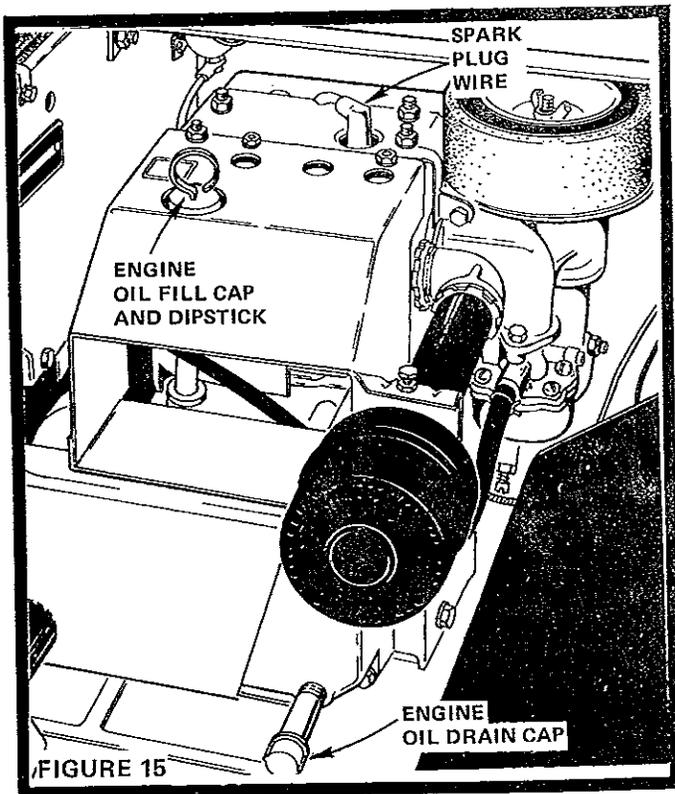

FIGURE 15
DISCONNECT SPARK PLUG WIRE (FIG. 15) TO PREVENT ACCIDENTAL STARTING BEFORE MAKING ANY INSPECTION, ADJUSTMENT (EXCEPT CARBURETOR) OR REPAIR.
- Drain Oil with Engine warm. Unscrew Oil Drain Cap (Fig. 15) and catch Oil in a suitable container. Replace Cap.
- Refill Engine Oil (Fig. 15). In summer use S.A.E. 30 (SC, SD or SE) Oil. In winter (below 32°F.) use S.A.E. 10W30 (SC, SD or SE) or 10W40 (SC, SD or SE). In extreme cold (below 0°F.) use S.A.E. 5W20 (SC, SD or SE). Refill capacity is 2 - 5/8 pints. **NOTE: DO NOT OVERFILL.**